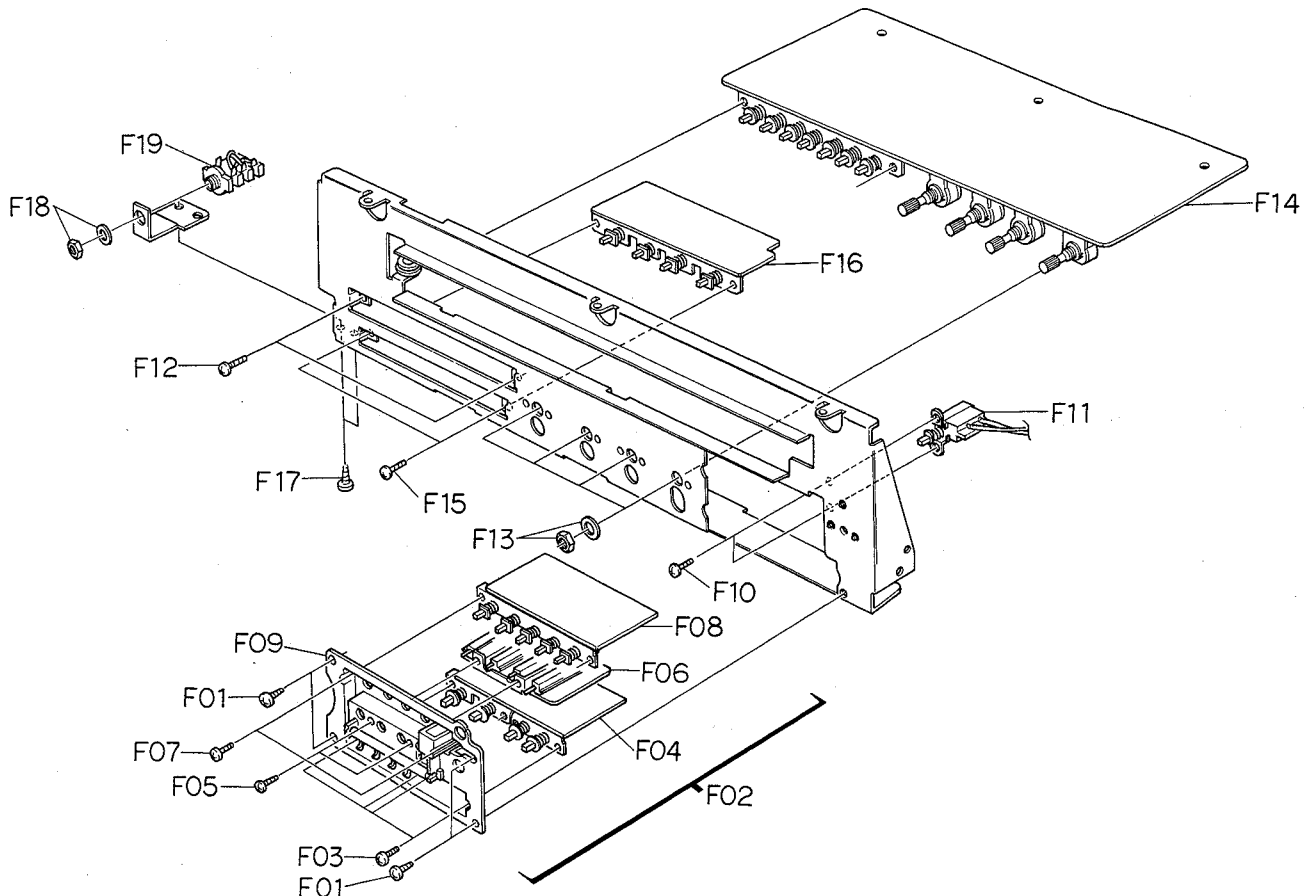

Fig. 3.4
Refer to Fig. 3.4. Remove Front Chassis Ass'y referring to item 3.9.
Refer to Fig. 3.4.
Refer to Fig. 3.4. Remove F17 and F18, then F19 (Headphone Jack).